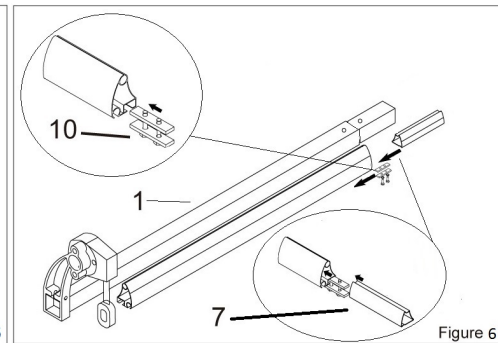

Figure 6
**Figure 6** shows the side view of the arm bracket